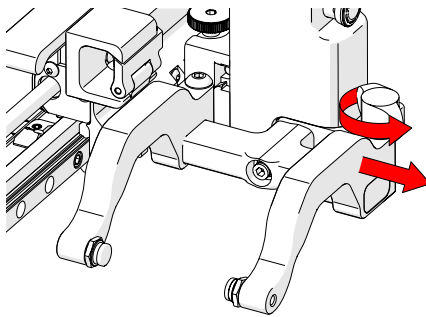

Fig. 49 - Remove outer arm
- Loosen the probe holder adjustment knob and remove the outer probe holder arm (Fig. 49).